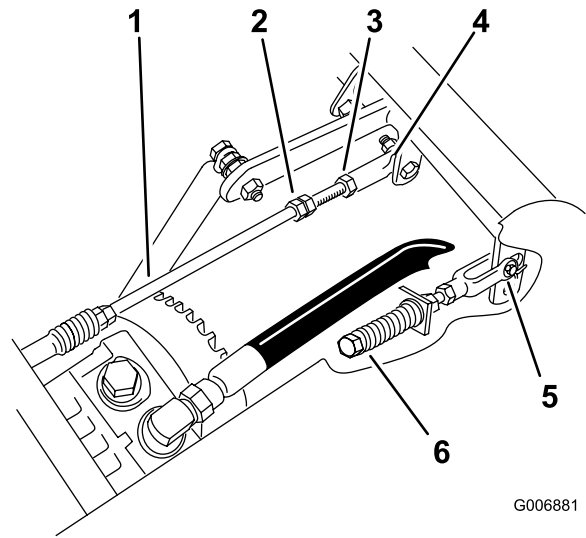

Figure 65
3. Adjust the pump rod length by rotating the double nuts on rod, in the appropriate direction, until the wheel is still or slightly creeping in reverse (Figure 65).
6. Tighten the locknut at the ball joint (Figure 65).